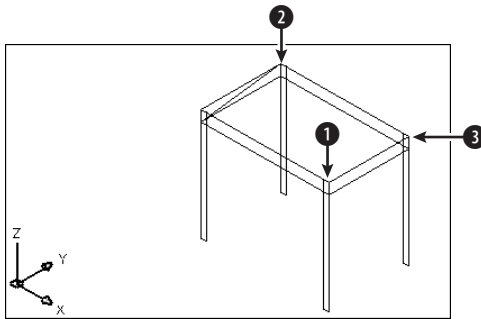

Figure 21-9: The piano bench after being shrunk with the STRETCH command
3. Choose Stretch from the Modify toolbar. Use a crossing window to select the right side of the bench. AutoCAD should find eight objects. End object selection. At the Specify base point or displacement: prompt, use the Endpoint object snap to pick ❶ in Figure 21-9. At the Specify second point of displacement: prompt, type `@-15,0` ↵.
Specify first point: Choose ❷ in Figure 21-9.